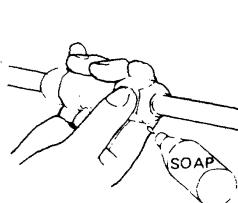

Fig. 37
- Leak test the joints with liquid soap. Fig. 37